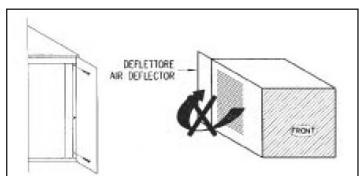

Fig.24.
- 13) Air deflector installation. (Fig.24) The deflector has to be installed in order to prevent the re-circulation of hot air to the condenser.